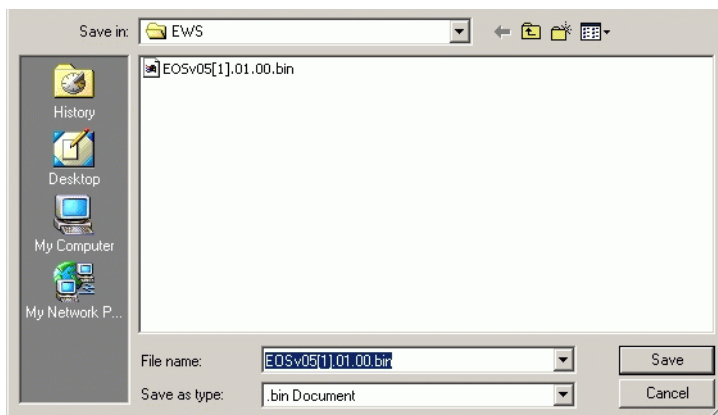

Figure 4-56 Save As Dialog Box
9. Select the *Save this file to disk* radio button and click OK. The *Save As* dialog box appears (Figure 4-56).